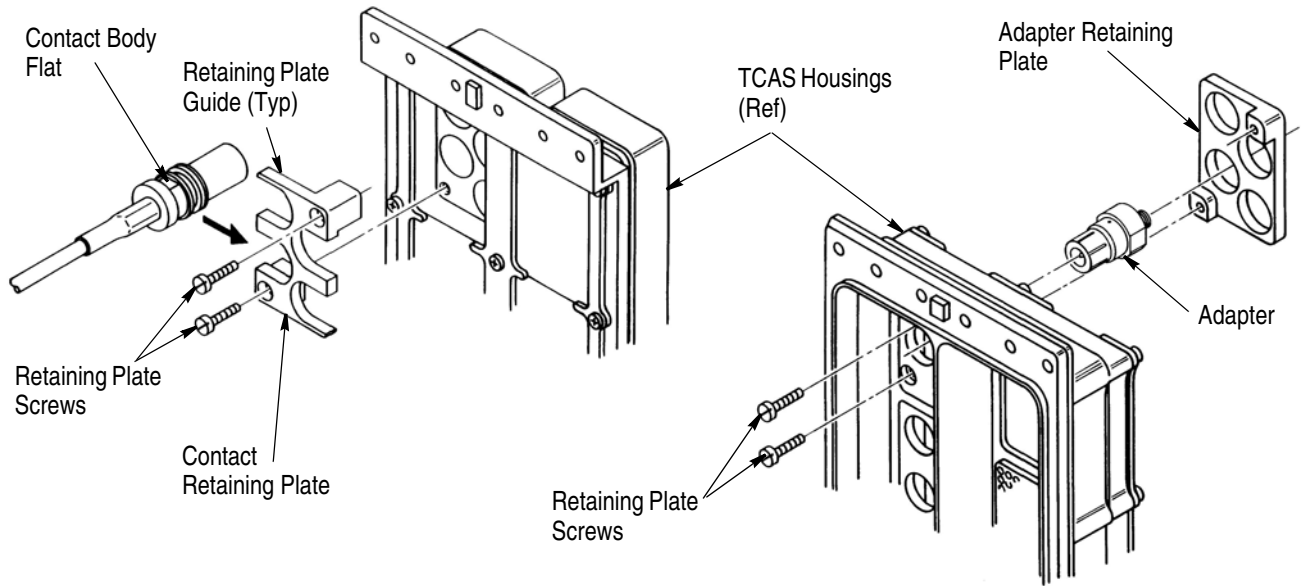

Figure 6
3.3. Installing Adapters and Socket Contacts in TCAS Housings (See Figure 6)